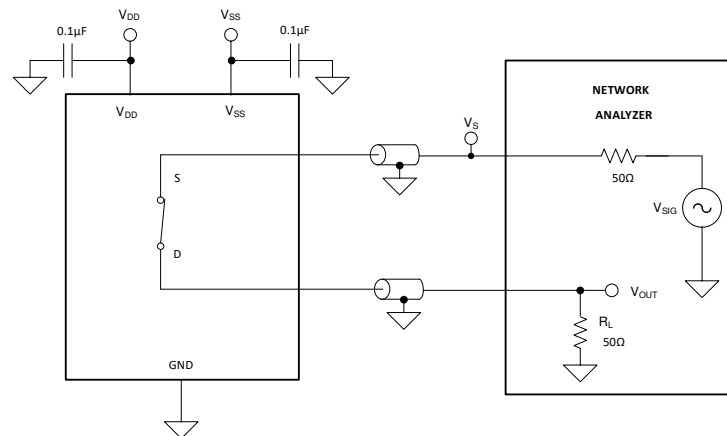

**Figure 6-9. Crosstalk Measurement Setup**
Crosstalk is defined as the ratio of the signal at the drain pin (D) of a different channel, when a signal is applied at the source pin (Sx) of an on-channel. Figure 6-9 shows the setup used to measure, and the equation used to compute crosstalk.